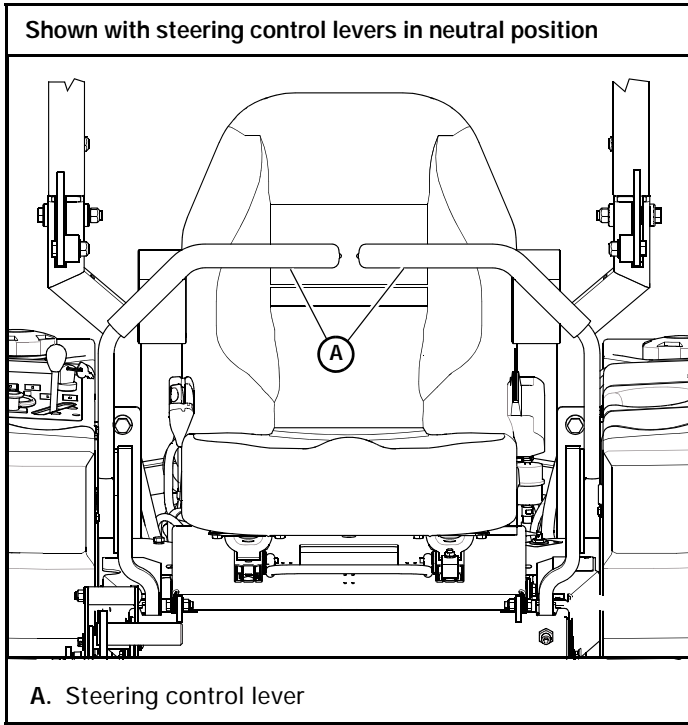

Figure 4-6
2. Place the steering control lever in the neutral position. Figure 4-6